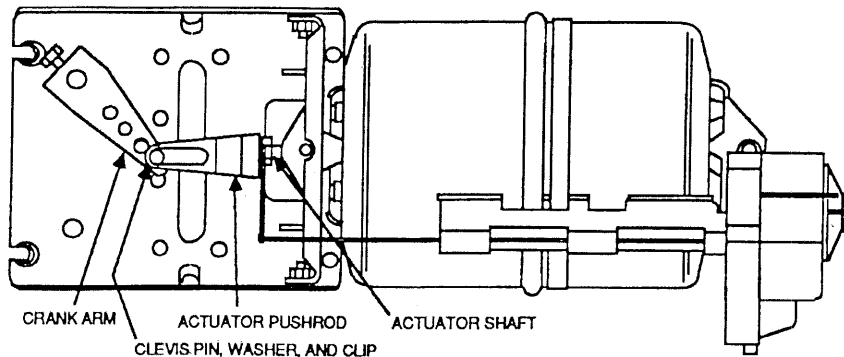

Fig. 13. Removing Pushrod.
- Remove clevis pin, washer, and clip (Fig. 13), disconnect actuator pushrod from crankarm, and unscrew actuator pushrod from actuator shaft.